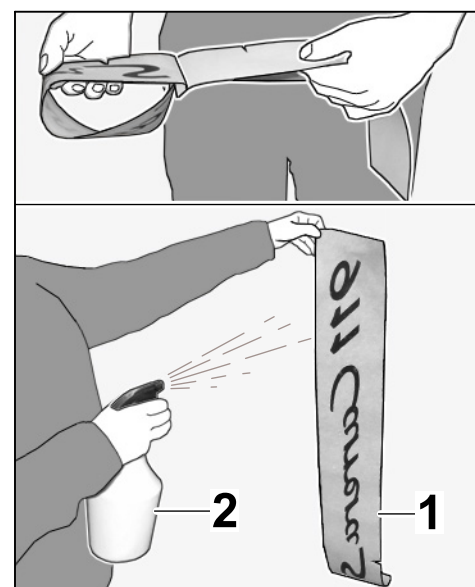

Figure 5
- 2.4 Pull backing sheet ⇒ *Figure 5 -1-* off completely and coat logo with soap solution mixture ⇒ *Figure 5 -2-*.